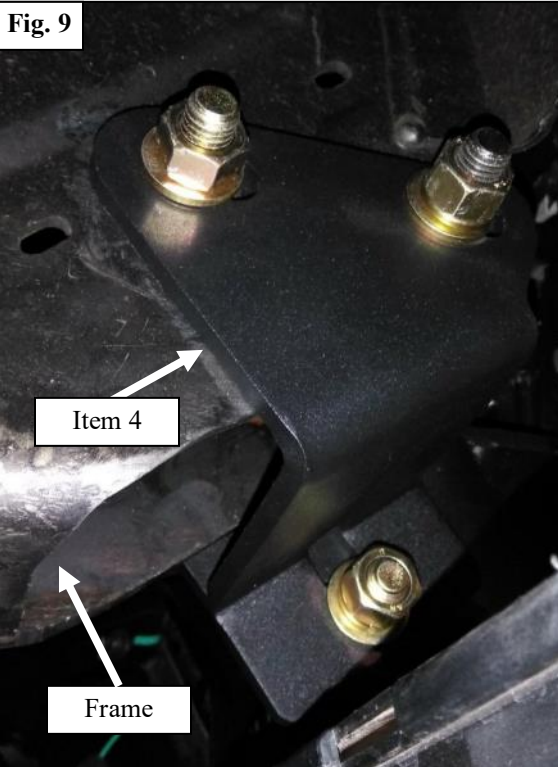

Fig. 9
11. Locate the lower driver mounting and support brackets for the Grille Guard. Using the supplied M12 hardware, loosely install the mounting brackets on to the frame. The mounting bracket and support bracket (2-5) sandwich the frame. See **Figure 9&10.**